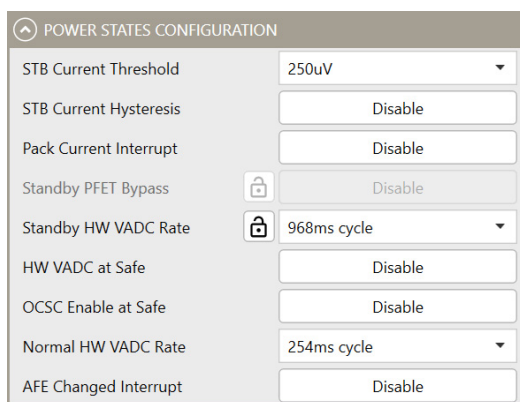

Figure 9: Power Status Configurations
- d. SC Removal Detection Soft Start (SS): This function enables the short-circuit detection sequence that occurs before the DSG MOSFET turns on.
11. Figure 9 shows how to configure the power status parameters.